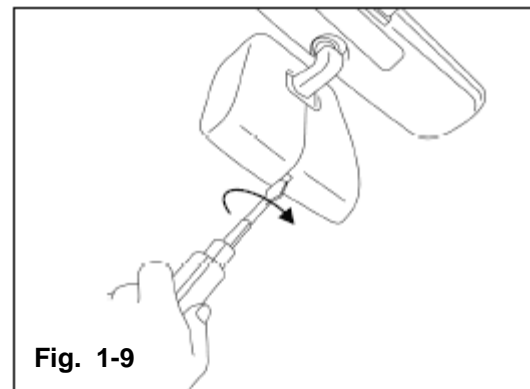

Fig. 1-9
- a) Insert 4mm screwdriver in slot at the bottom of the OE rain-sensor cover. **(Fig. 1-9)**
- b) Twist the head of the screwdriver to disengage the two halves of the cover. **(Fig. 1-9)**